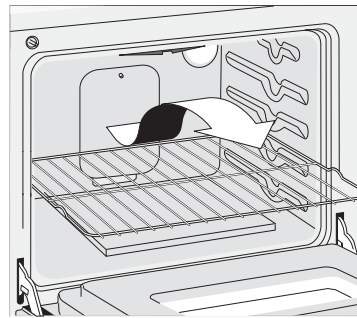

Figure 4
**To remove an oven rack**, pull the rack forward until it stops. Lift up front of rack and slide out (Figure 4).